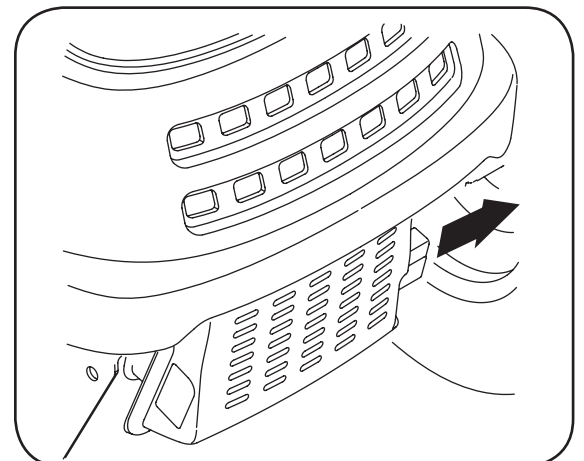

Figure 6-4
**IMPORTANT:** If you are installing this snow thrower attachment on any tractor model with a side discharge muffler, See Figure 6-4, then the heat shield on the auger housing must be removed. See figure 6-5. To